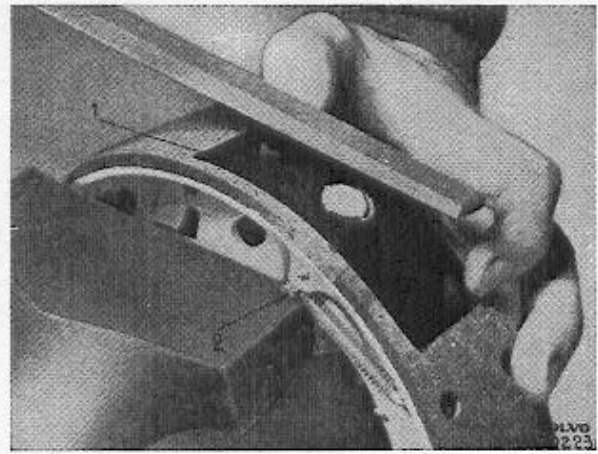

Fig. 24. Adjusting the contact plug.
With the contact plug in the outer position, the brake shoe is secured in a vice. The lip of the lever (2, Fig. 24) should rest against one of the jaws in order to prevent the plug from being pressed in when adjusting, thus making the adjustment incorrect.
Place the adjusting jig (1) over the contact plug and file this off flush with the jig (see Fig. 24). The plug will then come 0.1 mm (0.039") above the surface of the brake lining.